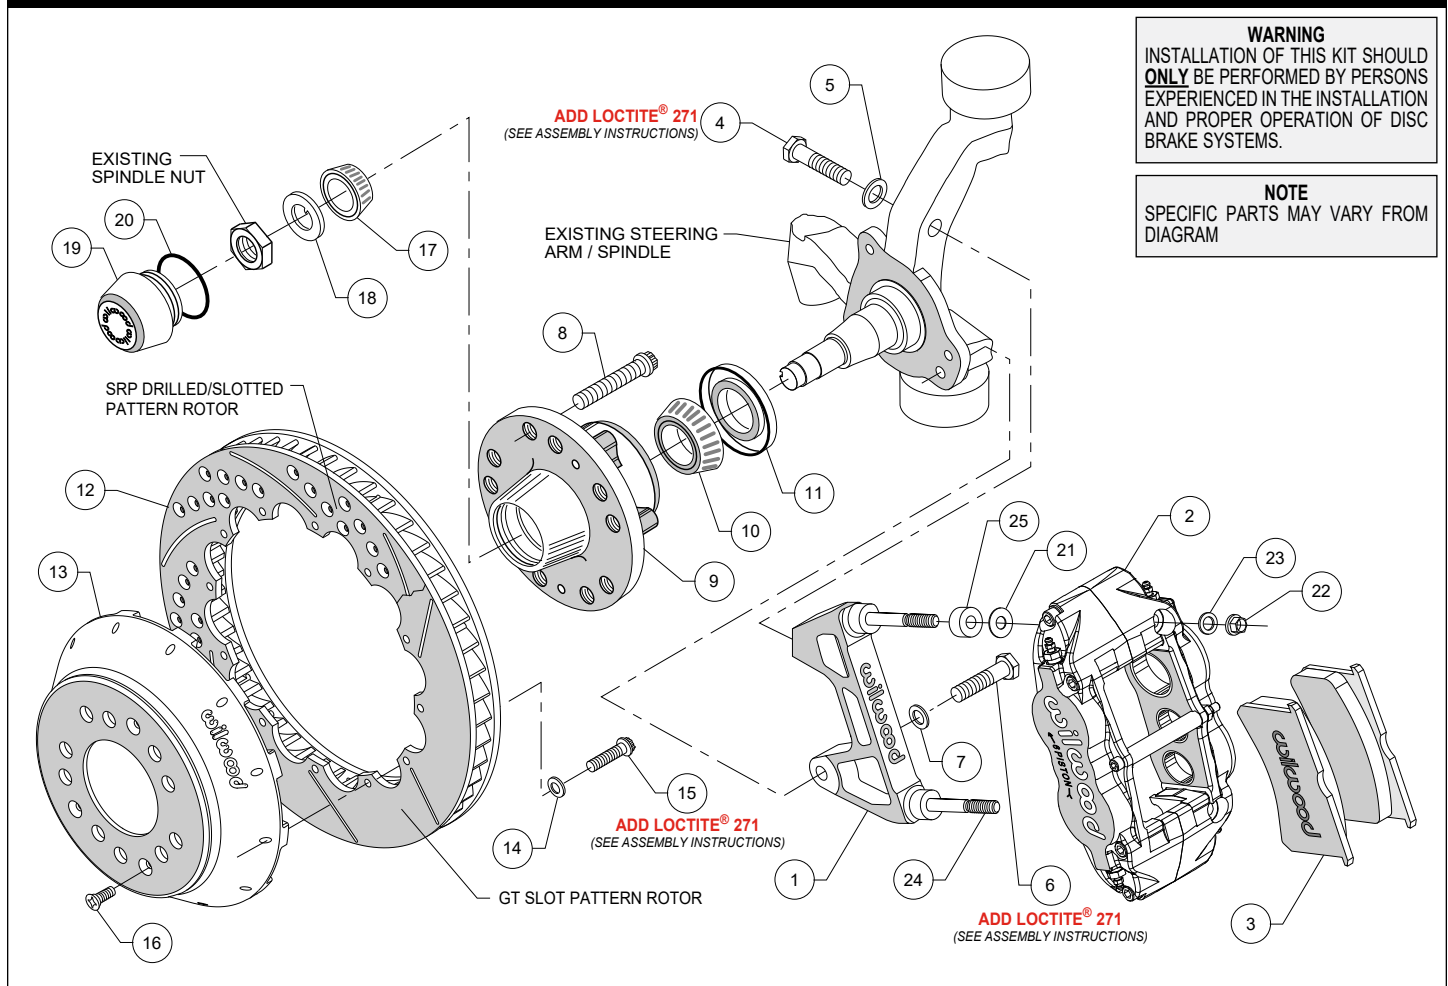

Figure 1. Typical Installation Configuration
NOTE: Numbers in parenthesis refer to the parts list and Figure 1 on the preceding pages.
- Slide the rotor/hat assembly over the studs (8) in the hub (9) taking care to align the small countersunk holes in the hat (13) with the small threaded holes in the hub (9). Install three flat head socket head screws (16) through the small holes in the hat (13) and torque to 85 in-lb. Check to be sure the hat seats squarely against the spindle.
- NOTE:** *This kit contains distinct right and left hand calipers that must be mounted in a specific direction, as described below.* Initially place one .035" thick shim (21) and spacer (25) on each stud as shown in Figure 1. Mount the caliper (2) onto the bracket (1) using lock nuts (22) and washers (23), Figure 1. Ensure that the caliper is mounted so that the largest pistons are at the rotor exit end of the caliper, in relation to the direction of rotor rotation.
- Remove the caliper center bridge pad retainer bolt, nut, and tube from the caliper. Slide the brake pads (3) into place. They should install easily without interference. Check that the outside radius of the brake pad is aligned with the outside diameter radius of the rotor face. Add or subtract shims (21) between the caliper and mount bracket to gain the proper alignment, reinstall the caliper and torque the caliper nuts (22) to 28 ft-lb. Reinstall the center bridge pad retainer tube, bolt, and locknut. The locknut should be snug without play in the bolt or tube. Be cautious not to over tighten.